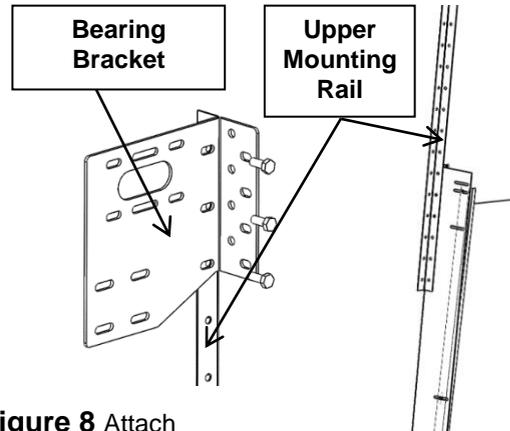

Figure 8 Attach bearing bracket to upper mounting rail
7. Attach the bearing brackets to the upper mounting rail using 3/8"-16x1" hex head bolts and 3/8"-16 Nylock nuts for each side. Top of bearing bracket should be flush with top of upper mounting rail. (**Figure 8**)